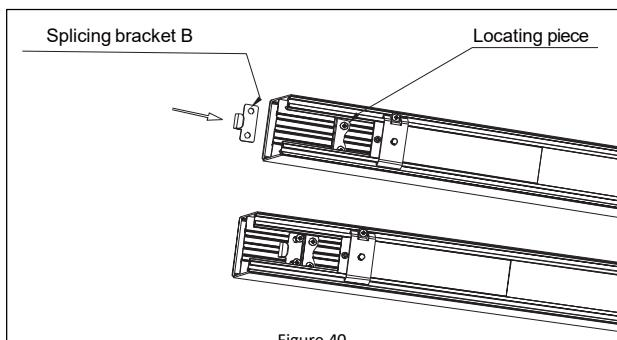

Figure 40
2. Slide the splicing bracket B into locating piece, then secure it with screws. *See Figure 40.*